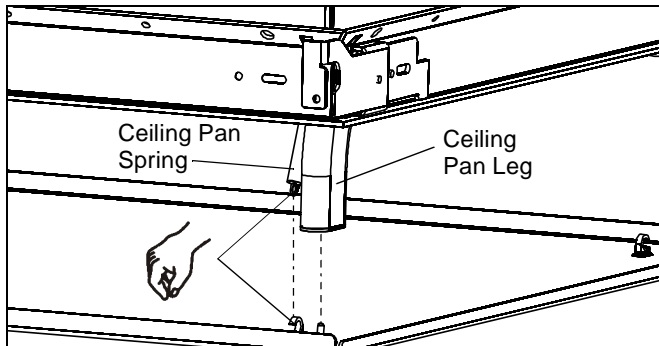

Figure 25
1. Line up small peg on ceiling pan with hole in leg of projector cradle. (See Figure 25)
2. Attach spring on projector cradle to hook on ceiling pan. (See Figure 25)